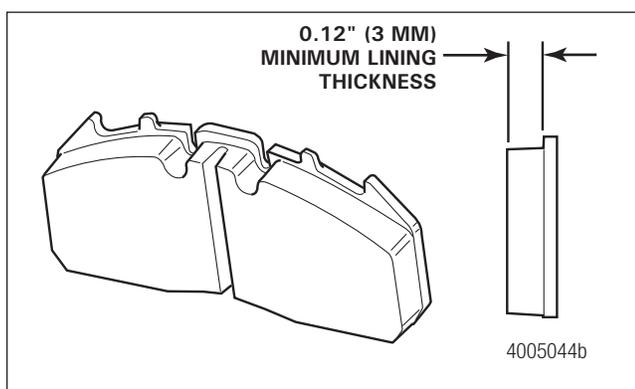

Fig. 6.13 Measure the lining thickness.
STEP 10 - Measure the friction material thickness on the brake pad. Replace brake pad assemblies before the lining thickness reaches 0.12-inch (3 mm). Figure 6.13.